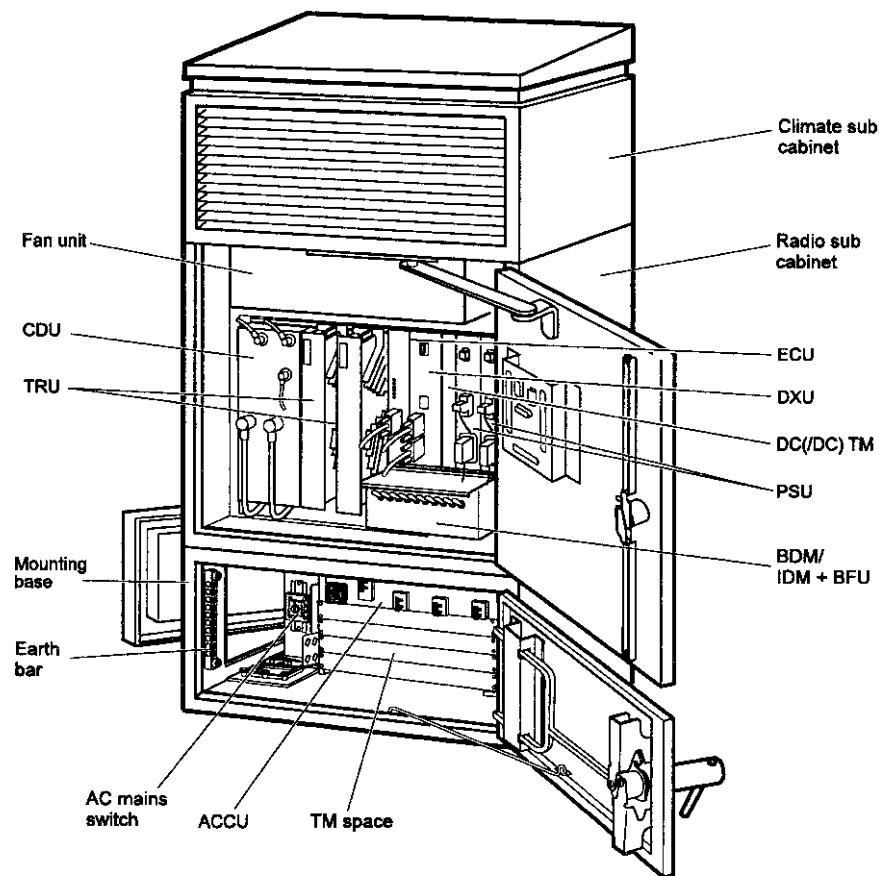

Figure 2-1 RBS 2101
- Houses up to 2 TRU's and common equipment needed for serving one cell, see fig 2-1.